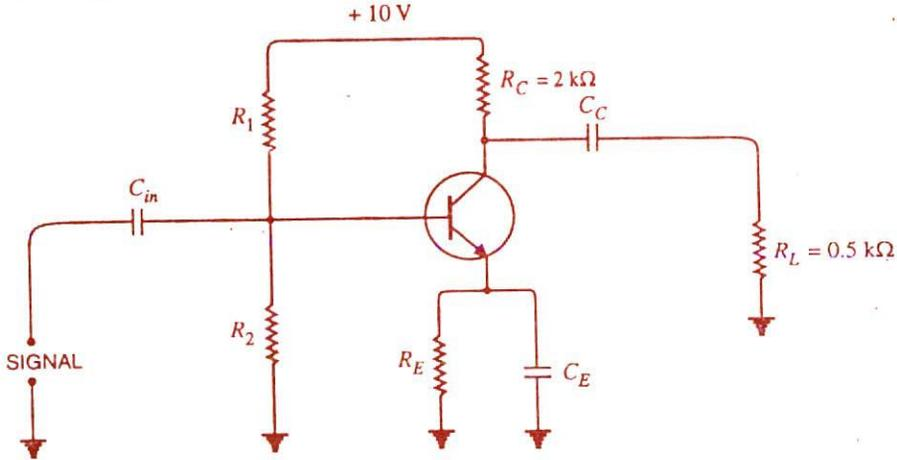

Fig. 12.19
**Example 12.6.** In the circuit shown in Fig. 12.19, find the voltage gain. Given that  $\beta = 60$  and input resistance  $R_{in} = 1 \text{ k}\Omega$ .
**Example 12.7.** In the circuit shown in Fig. 12.19, if  $R_C = 10 \text{ k}\Omega$ ,  $R_L = 10 \text{ k}\Omega$ ,  $R_{in} = 2.5 \text{ k}\Omega$ ,  $\beta = 100$ , find the output voltage for an input voltage of  $1 \text{ mV r.m.s.}$